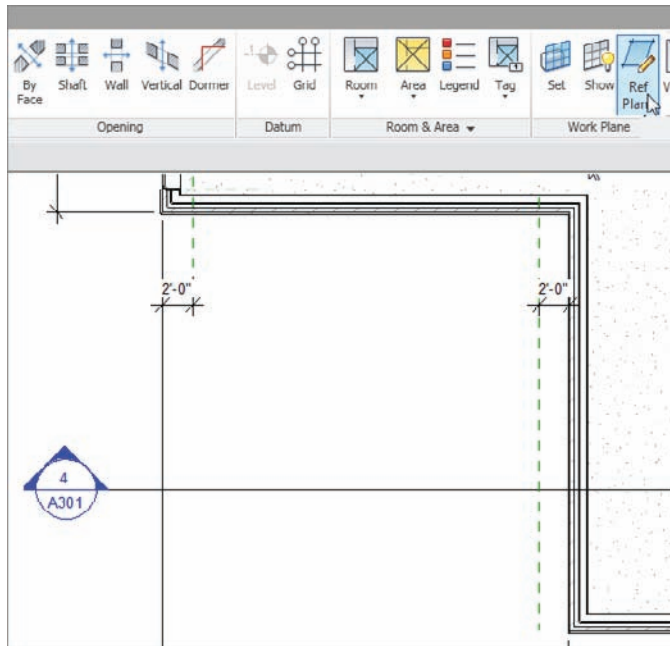

FIGURE 16.27 Offsetting two reference planes 2’-0” (600mm) from the face of brick
3. Offset a reference plane 2’-0” (600mm) from the face of brick, as shown in Figure 16.27.